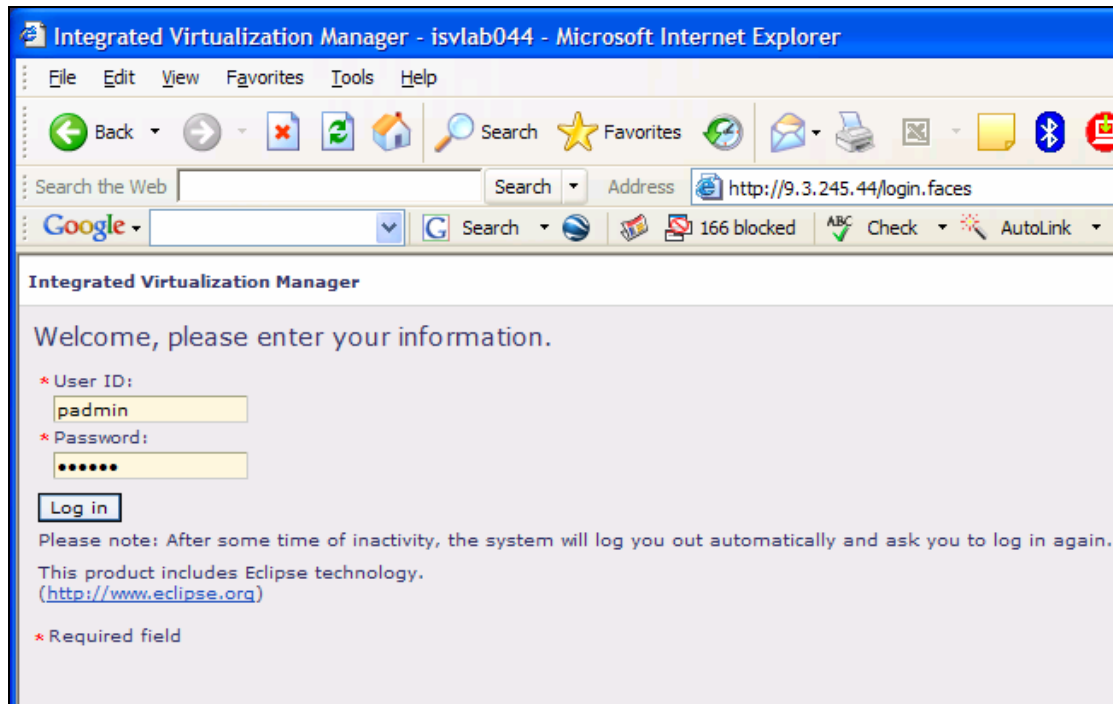

Figure 35. Logging in to Virtual I/O Server
7. Log in with the **padmin** user ID and the password you established in step 1 on the previous page. The default user ID is padmin (see Figure 35).